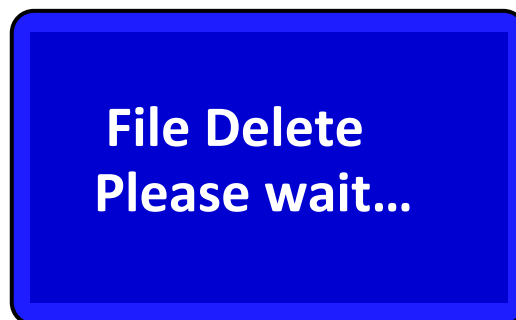

Fig.3-48 File Deleting Process
- ◆ Press the key “ENT” to confirm the selection, Enter the submenu (file deleting process interface), as shown in Fig.3-48;